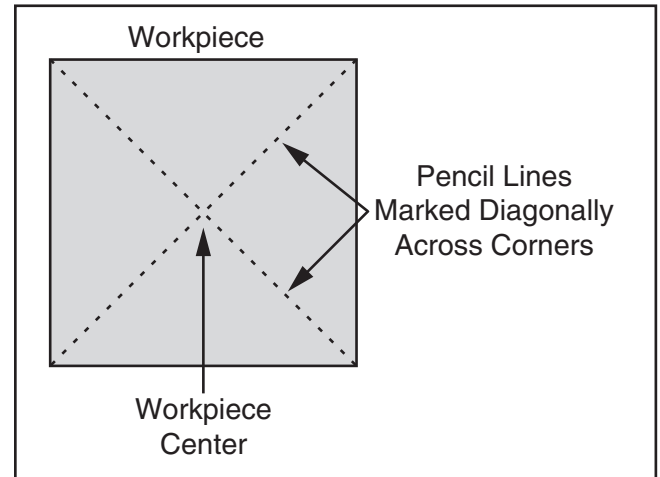

Figure 43. Workpiece marked diagonally from corner to corner to determine the center.
1. Find the center point of both ends of your workpiece by drawing diagonal lines from corner to corner across the end of the workpiece (see **Figure 43**).